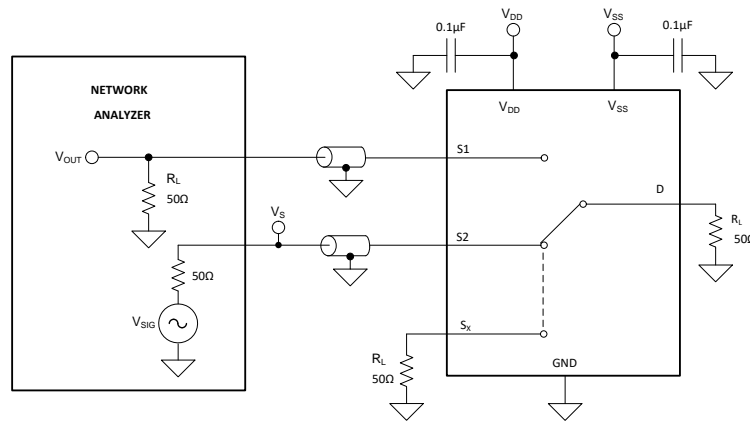

Figure 26. Crosstalk Measurement Setup
Crosstalk is defined as the ratio of the signal at the drain pin (D) of a different channel, when a signal is applied at the source pin (Sx) of an on-channel. Figure 26 shows the setup used to measure, and the equation used to compute crosstalk.